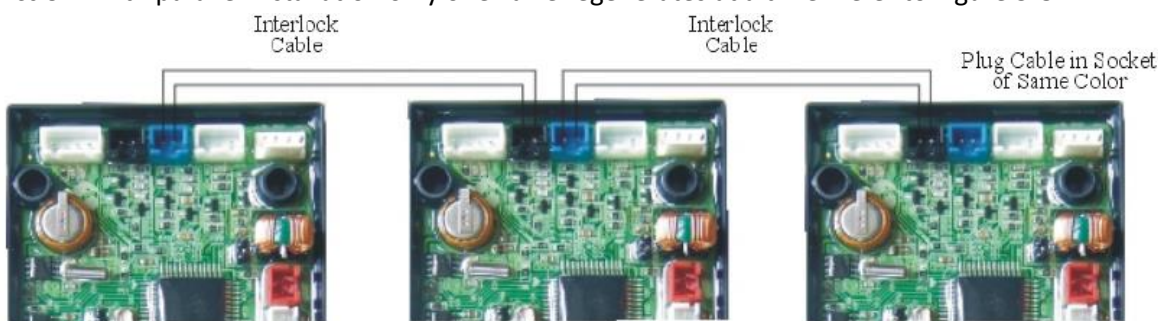

Figure 3-8 Interlocking a Network of Valves.
- * **Function:** With parallel installation only one valve regenerates at a time. Refer to Figure 3-8.